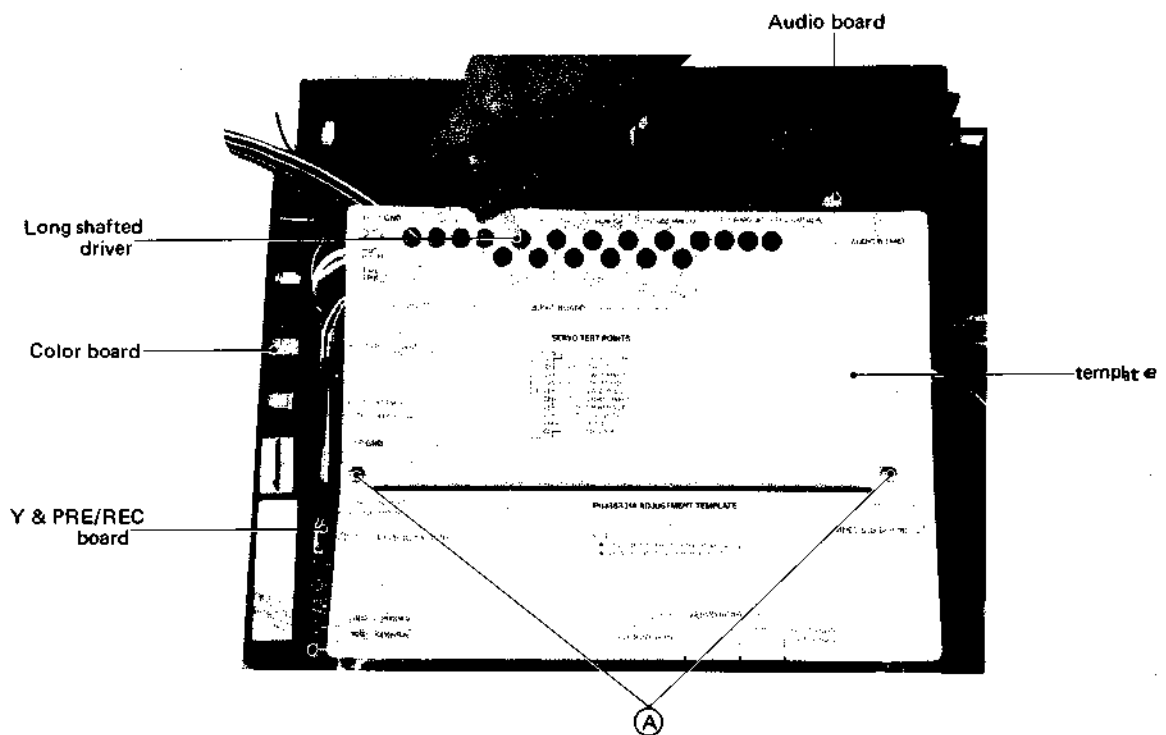

Fig. 5-3 Adjustment template
3. Use 2 screws (A) of the cassette housing to hold the template in place as shown in Fig. 5-3.